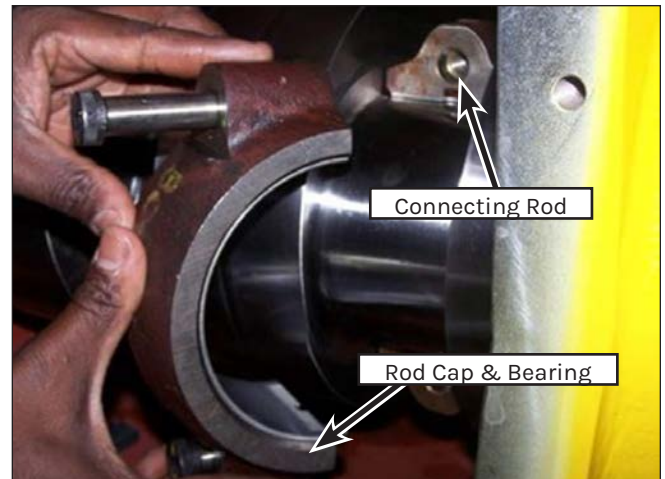
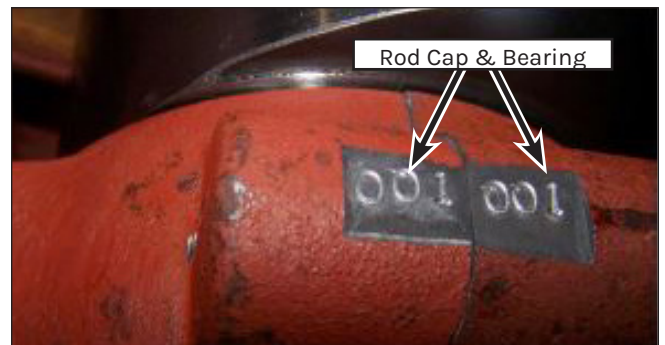

Figure 164: Rod Cap Installation.
Figure 165: Matched Parts Stampings.
6. Pull the connecting rod (Figure 164) onto the crankshaft and place the rod cap into position aligned with the connecting rod. Ensure the stampings (Figure 165) on the cap and rod match.